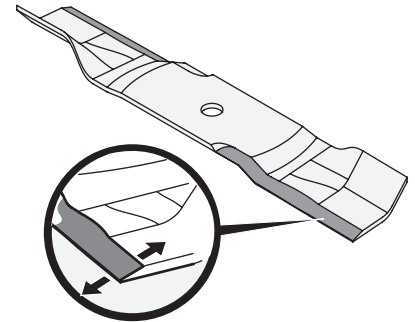

Figure 4-18
3. To properly sharpen the cutting blades, remove equal amounts of metal from both ends of the blades along the cutting edges, parallel to the trailing edge, at a 25°-30° angle. Always grind each cutting blade edge equally to maintain proper blade balance. See Figure 4-18.